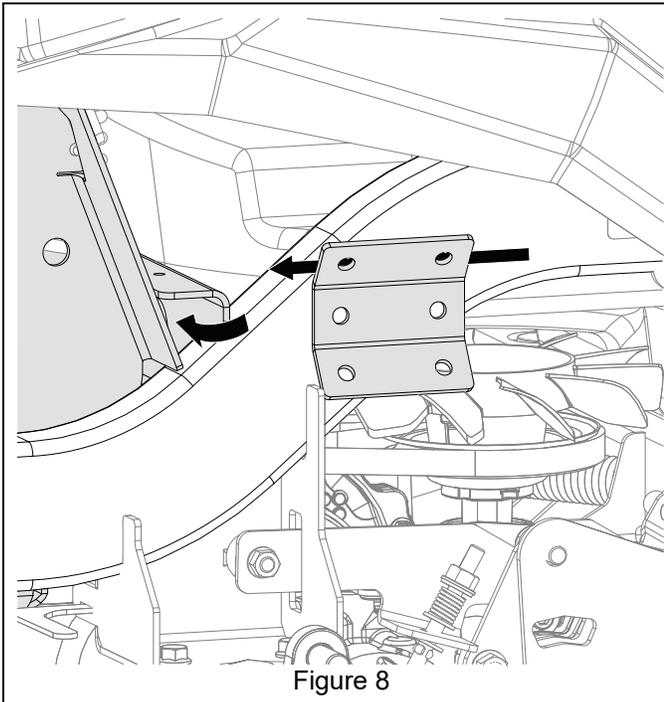

Figure 8
11. Route headlight harness under fenders and above right damper / fender mount bracket. Continue to route harness into frame channel. See Figure 8.